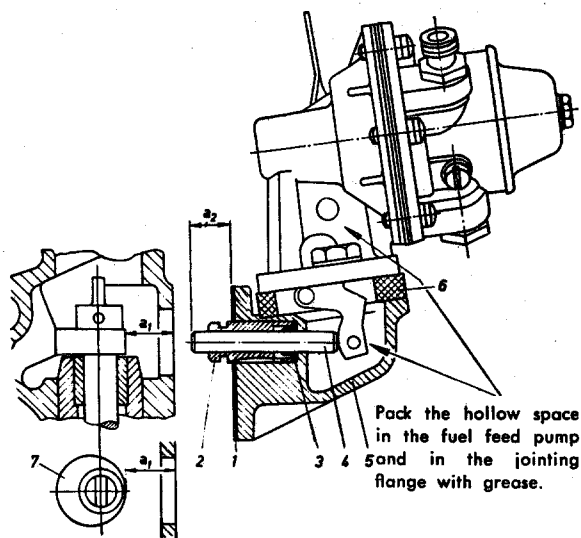

Fig. 01—3/34
4. If necessary, correct the feed pressure. This is done by measuring the play between the tappet (4) of the fuel feed pump at the beginning of its power stroke and the BDC of the drive cam (7) (Fig. 01—3/34).